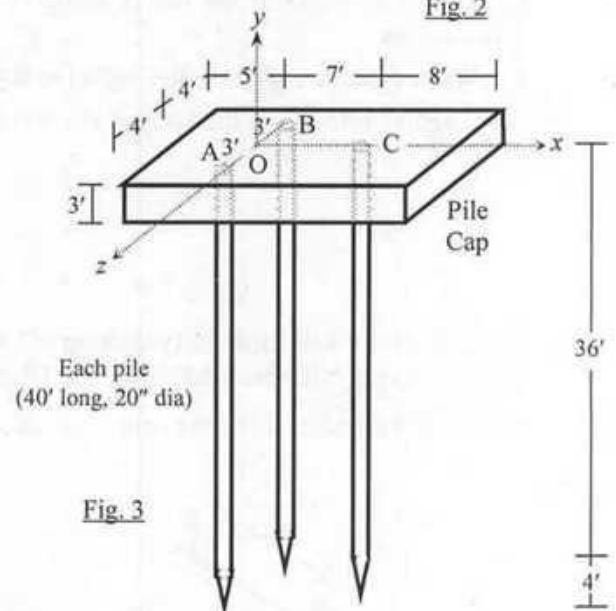

Fig. 3
of the concrete pile group-pile cap composite shown in Fig. 3 about the  $z$ -axis
14. If the pile-cap (shown in Fig. 3) weighs  $W = 75$  kips and a force  $P = 500$  kip acts on it vertically downward at O (i.e., in the negative  $y$ -direction), calculate the reactions in pile A, B and C.